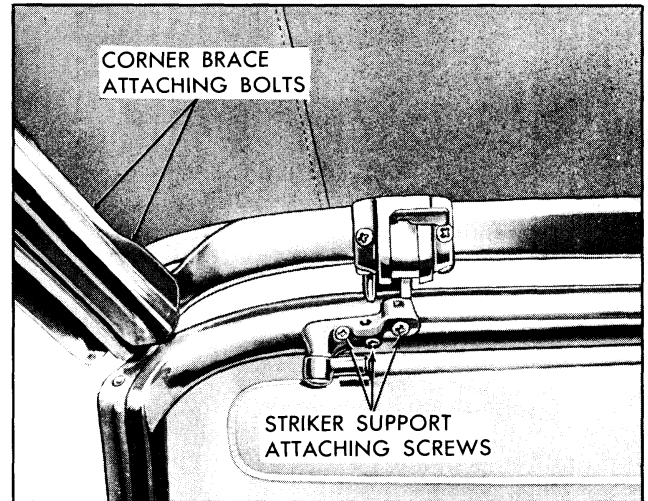

Fig. 22-15 Front Roof Rail Adjustment
top locking handle with striker on windshield header (Fig. 22-15).
D. Holding top down with one hand, reach into car and engage each folding top locking handle with striker on windshield header (Fig. 22-15).